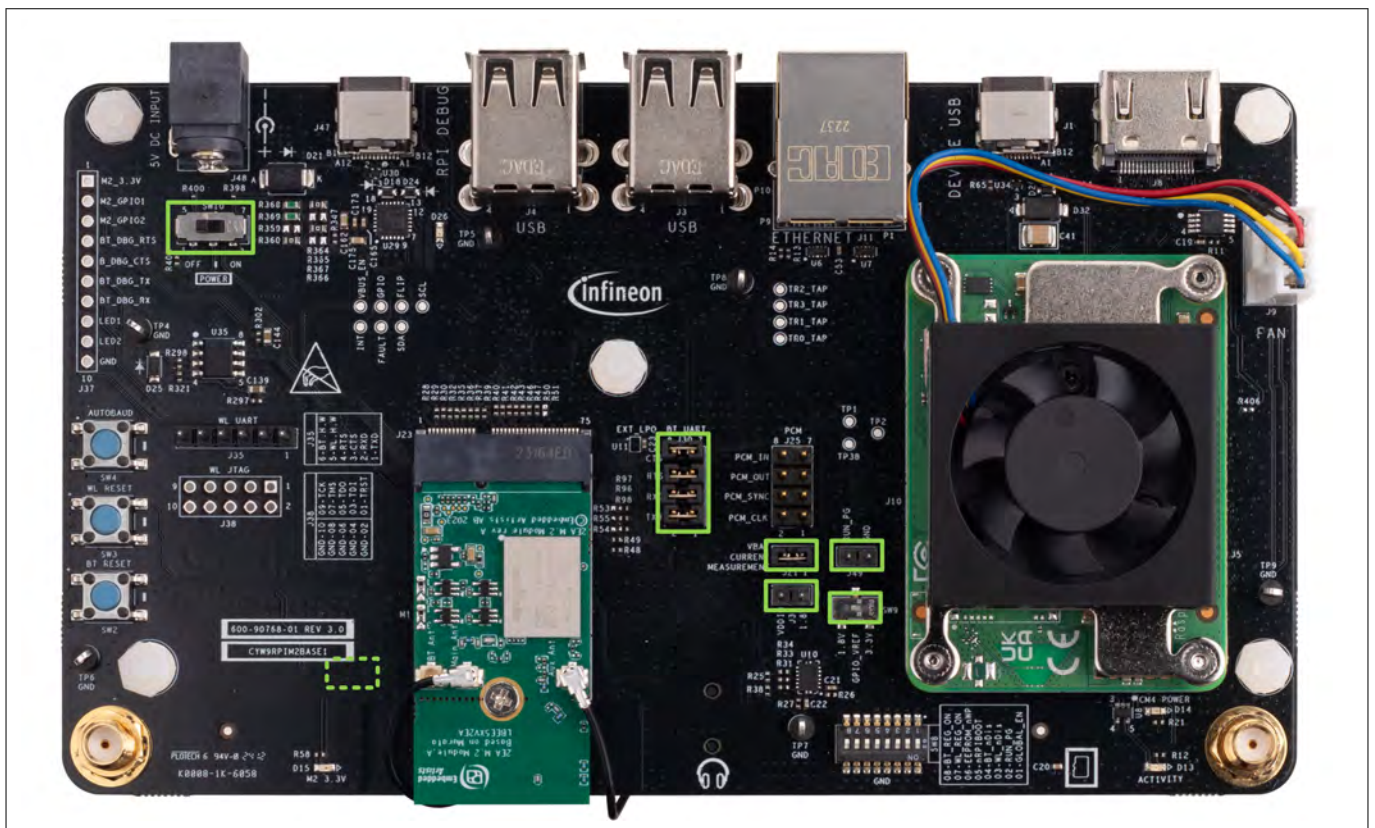

Figure 2 CYW9RPIWIFIBT-EVK default jumper and switch setting
Before connecting the kit to the PC, ensure that all jumpers and switches on the baseboard are in their default configuration as shown in Figure 2 and specified in Table 4 to Table 8.
3. Ensure that the jumper and switch settings on the board are configured as shown in Figure 2 and specified in Table 3 to Table 8
- Ensure that the jumper and switch settings on the board are configured as shown in Figure 2 and specified in Table 3 to Table 8